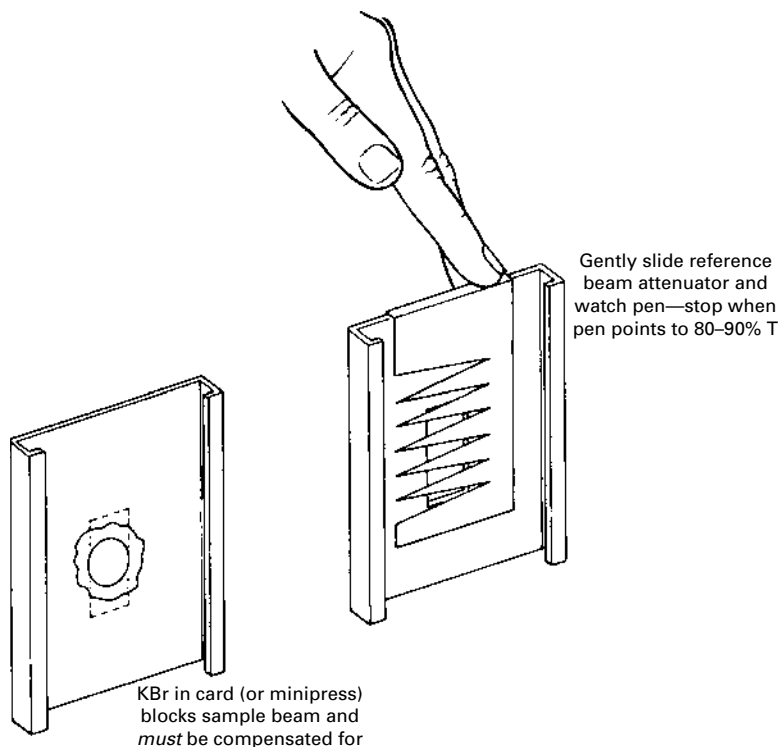

FIGURE 32.19 Using a reference beam attenuator with a KBr window.
1. Cut and trim an index card so that it fits into the **sample beam aperture** (see Figure 32.19).
Usually, there's not much more to adjusting the 100% control than is shown in upcoming items 7 through 9, unless your sample, *by its size alone*, reduces the amount of IR that reaches the detector. This really shows up if you've used the minipress, which has a *much smaller opening* than the opening in the reference beam. So you're at a disadvantage right from the start. Sometimes the 100% control mopes around at much less than 40%. That's terrible, and you'll have to use a **reference beam attenuator** (Fig. 32.19) to equalize the amounts of energy in the two beams. As you block more and more of the energy in the reference beam, the %T will go back to the 100% mark. Stop at about 90%. Note that, if you didn't have these problems, this is where you'd put the pen with the 100%